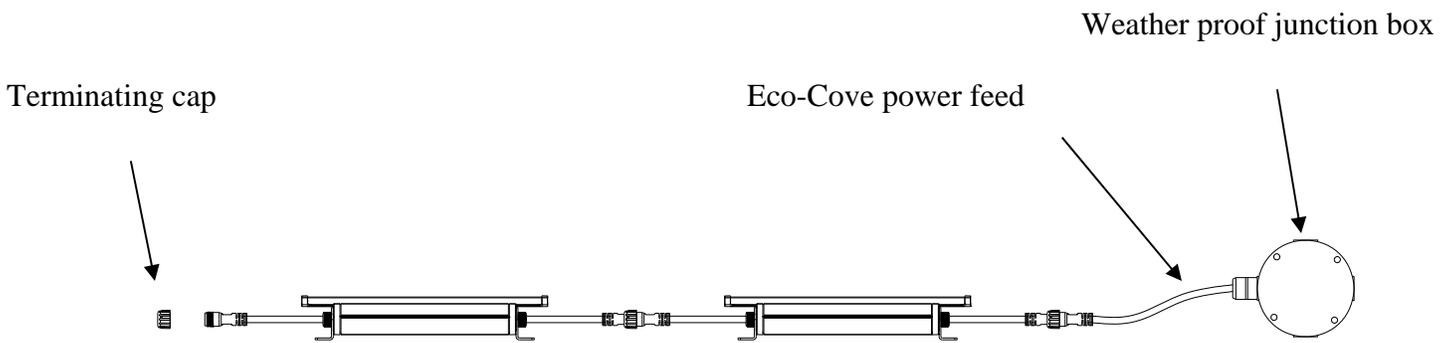

FIG 3.
3. Connect the power feed to the first fixture in your run and connect the other end of the power feed to a weather proof junction box. A water tight fitting must be used when feeding the power feed from the fixture into the junction box (example: Heyco part # 9761) (FIG 3)
4. Install an Eco-Cove run terminating cap onto the last fixture into your run. (FIG 3)